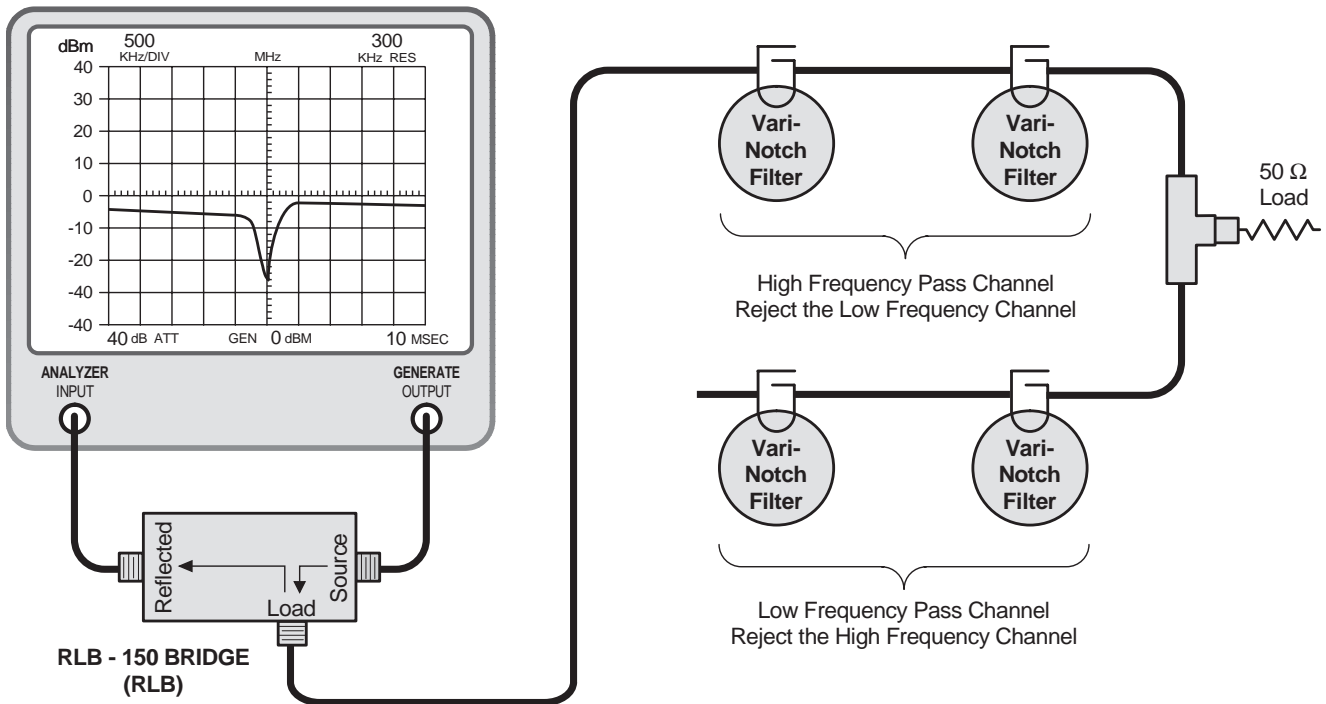

Figure 6: Equipment setup for fine tuning the passband of each channel.
9. Connect the "load" port on the RLB to the equipment port of the channel to be fine tuned. Terminate the duplexers antenna connector with the 50 ohm load. The equipment port of the remaining duplexer channel is left disconnected, refer to figure 6.